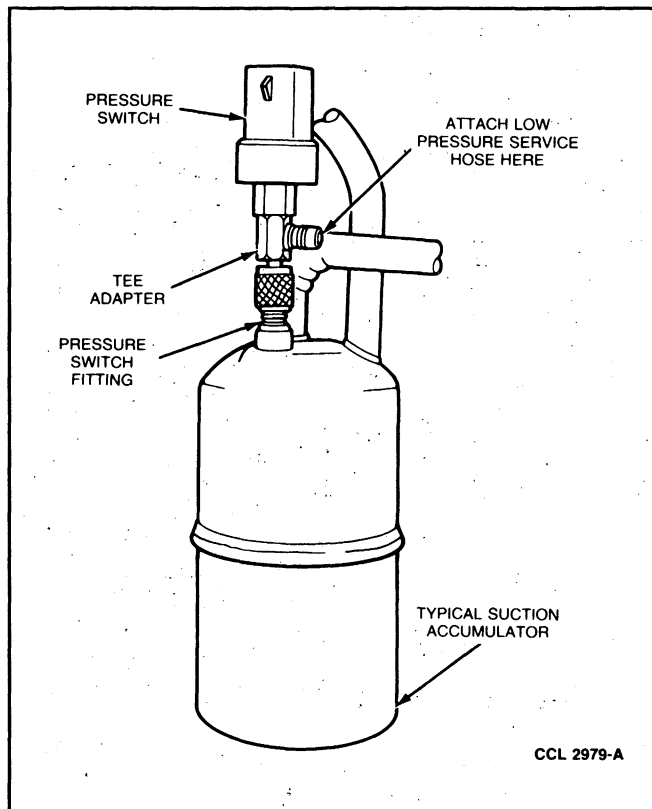

**FIG. 32 Condenser Assembly Installation**
The condenser assembly is mounted forward of the radiator on the radiator support (Fig. 32).
7. Working under vehicle, reposition splash shield and remove two condenser lower retaining nuts (Fig. 32).
8. Remove two bolts retaining the top of condenser to radiator upper support (Fig. 32).